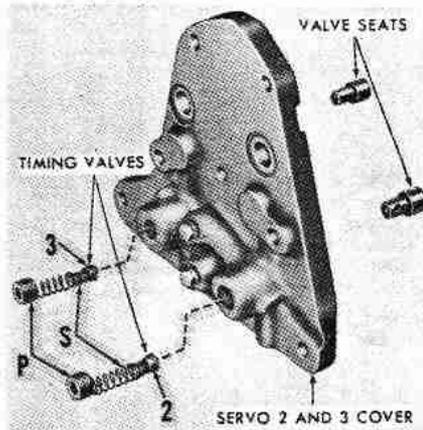

Fig. 263—Exploded view of Servo 2-3 cover assembly. Refer to Fig. 264 for cross-sectional view of timing valves (2 and 3) and valve seats in installed position.
261. **SERVO 2 AND 3 COVER, TIMING VALVES AND SERVOS 2 AND 3.** The servo cover and servos can be removed with transmission installed in tractor. The servo timing valves are located in the servo cover; refer to exploded view in Fig. 263. Refer to appropriate following paragraphs for removal, overhaul and reinstalling procedure.
264. **SERVO TIMING VALVES.** The Servo 2 and 3 Cover assembly contains the Servo Timing Valves and Valve Seats; refer to exploded view in Fig. 263. To remove the timing valves, remove the socket head plugs (P) from outer side of cover, then remove the springs (S) and timing valve assemblies (2 and 3). Note that the Servo 3 timing valve is located to front of cover opposite the No. 2 Servo and the Servo 2 timing valve is located towards rear cover opposite No. 3 Servo.
valves in servo cover as shown in Fig. 263. Tighten the socket head retaining plugs securely after installing timing valve assemblies (V—Fig. 264), snap ring end first, and springs (S).